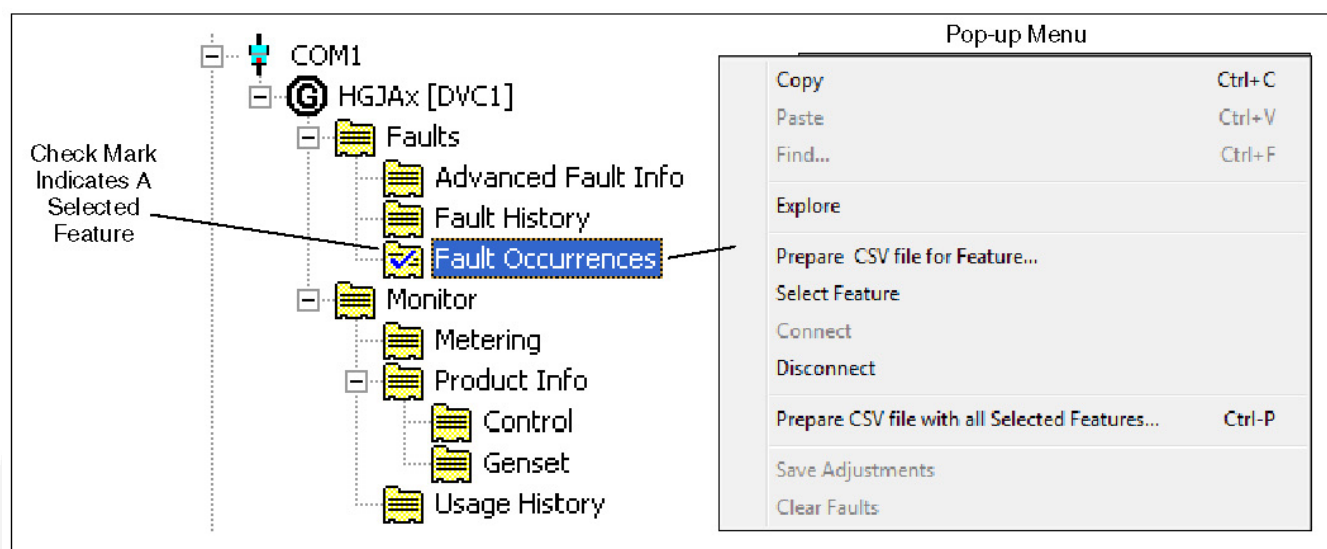

FIGURE 100. SELECTING FEATURES FOR A REPORT
**To create a report for a single group of parameters:** Select the group folder, if it contains additional folders, double click on the folder to expand it. Select the desired folder and use the mouse or keyboard menu button to display the pop-up menu (Figure 100). Select **Print Feature** from the pop-up menu, to create a report for the selected folder and display the **Parameter List Report** window (Figure 101).
**To create a report with more than one group of parameters:** Select each folder individually, use the mouse or keyboard menu button to display the popup menu, click on **Select Feature**, in the popup menu. Each folder selected will be marked with a check mark, to indicate that it has been selected for use in the report (Figure 100).